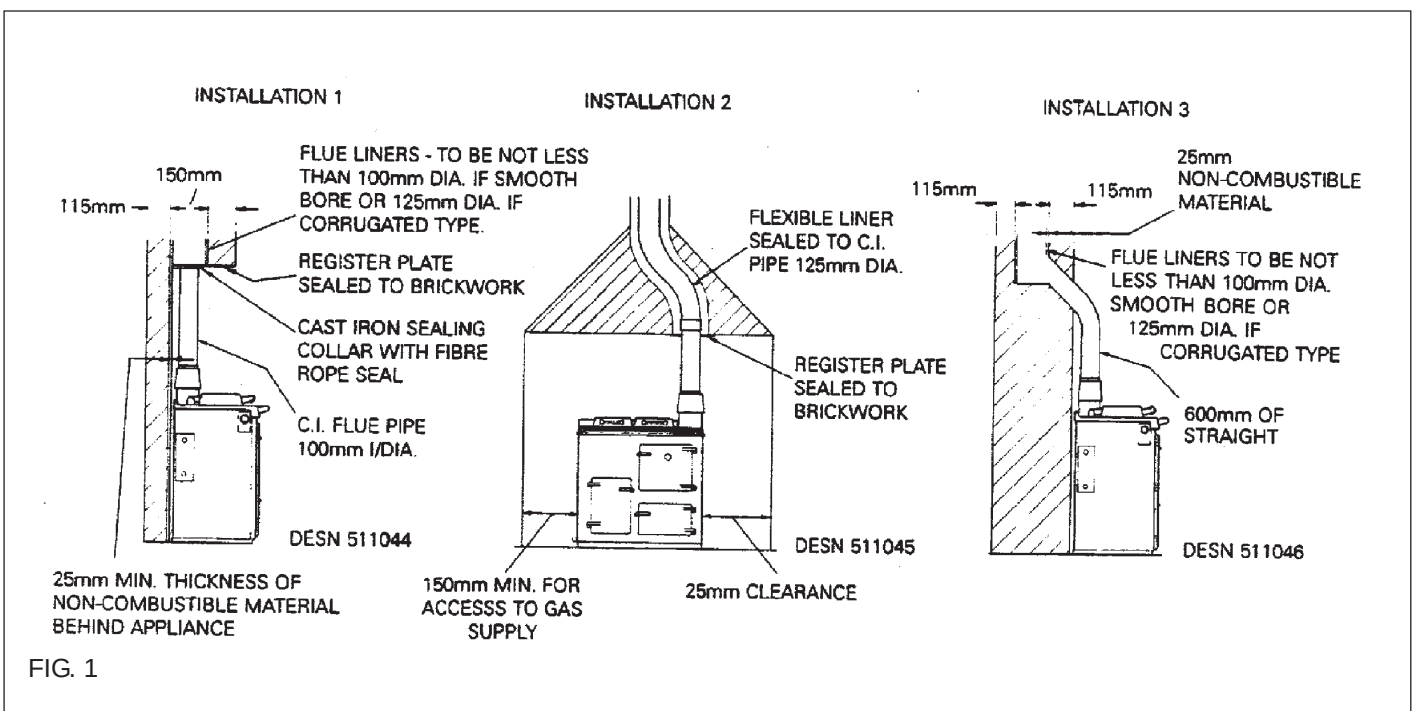

FIG. 1
SEE FIG. 1
4. Connect and terminate the flue system in accordance with standard practice. See Fig. 1.